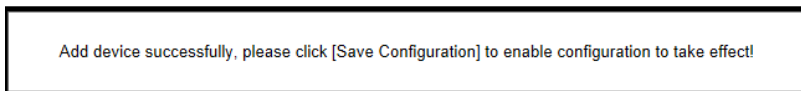

Figure 3-53 Prompt information 1
- 7) Click the **Add** button, the page shown in Figure 3-53 pops up, at the same time, a piece of new device information will be added in the device list;